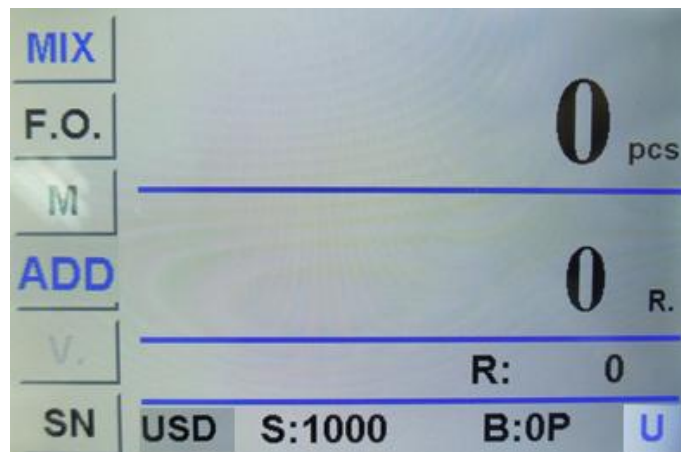

Fig.45
***Notes: Before you collect the images, please make sure the USB flash drive is well inserted. There will be a sign of "U" on the bottom right screen corner if the drive is successfully connected, shown as Fig.45.**